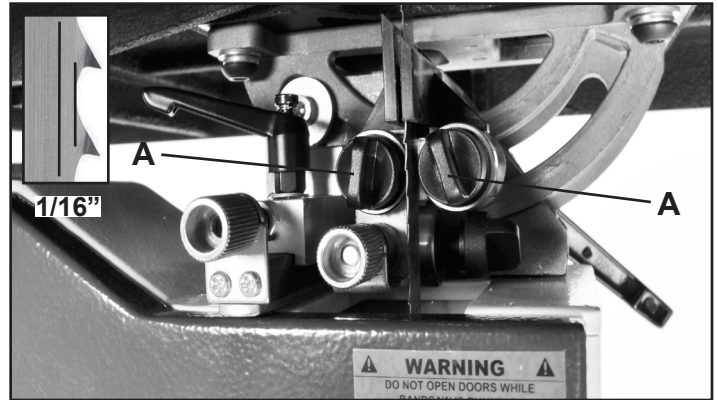

FIGURE 26
3. First, loosen the front Locking Knobs (A, Fig 26). To move the guides towards or away from the blade, use the Locking Knobs as handles to slide the bearings in place. Once set, secure the Locking Knobs.